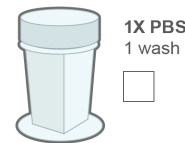

Figure 84: 1X PBS Wash
6. **Transfer** to a staining jar with **fresh 1X PBS** and **repeat wash** (Figure 84).